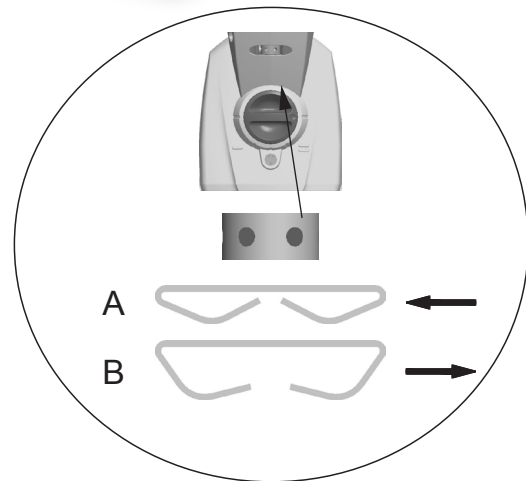

Fig. 6
- With a small screwdriver turn the adjusting nut behind the slot (Fig. 6/1). Turn clockwise to close the clinch (6/A). Turn the adjusting nut anticlockwise to open the clinch (6/B).